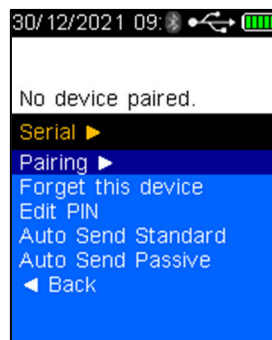

Figure 47 - Pairing Selected
- Select 'Pairing' on HH4 to search for Bluetooth devices (Refer to Figure 47).